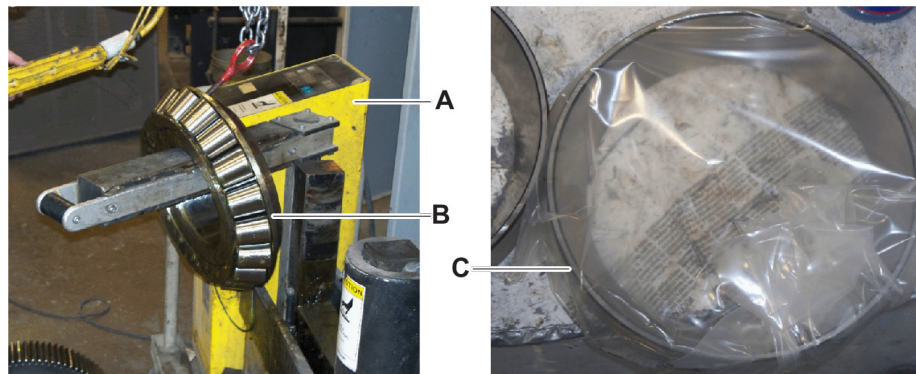

Figure 3
- While the bearing cone (Figure 3, item B) is heating in the induction heater (item A), begin freezing the lower spindle bearing cup (item C) to between -18 °C and -23°C (0 °F and -10 °F). Additionally, begin freezing the upper spindle bearing cup and both lower intermediate shaft bearing cups to the same temperature.